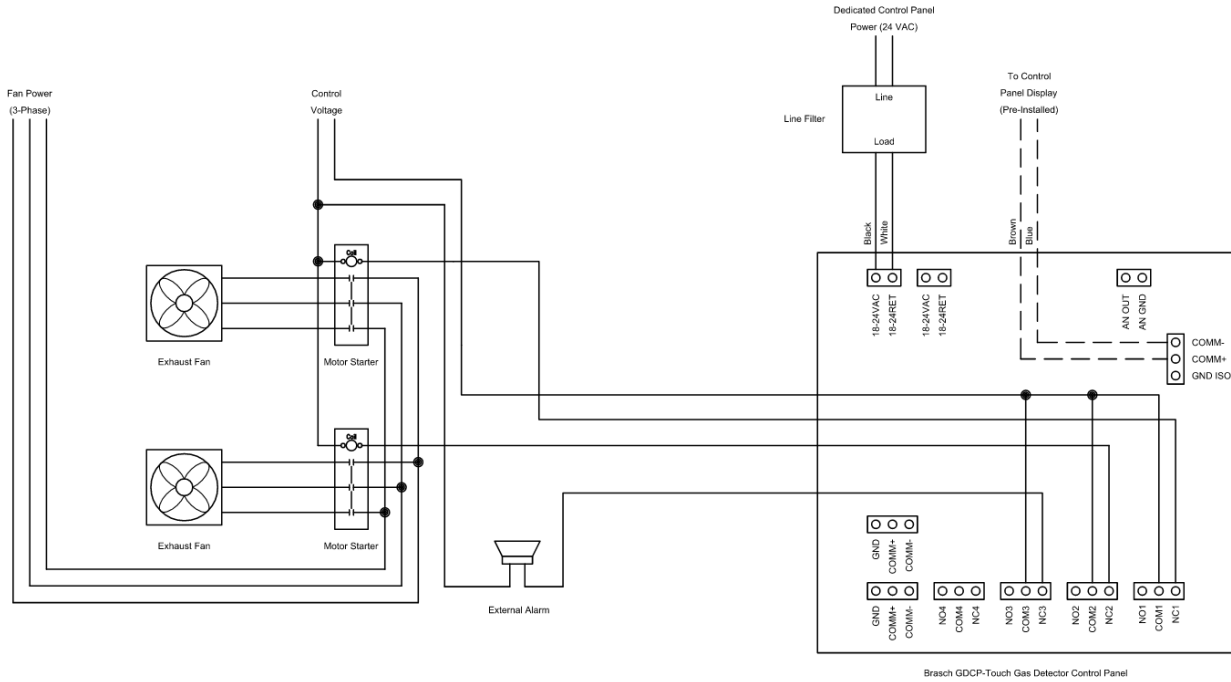

Figure 1: Wiring – Two Fan Ventilation System with Common Alarm
As an energy saving device, the main function of this control panel is to operate the ventilation system only when necessary. To accomplish this, the panel is equipped with four control relays for both normally open (NO) and normally closed (NC) operation. The contacts of these relays can control various ventilation system configurations. Figures 1 and 2 on page 20 give examples of the wiring for some common systems. Coil control signals on relays for damper and make-up air units can also be connected across the panel's relay contacts so that these components actuate simultaneously with the exhaust fans. However, do not exceed the maximum ratings of the relays (see page 7).
Figures 1 and 2 on page 20 show typical alarm wiring.